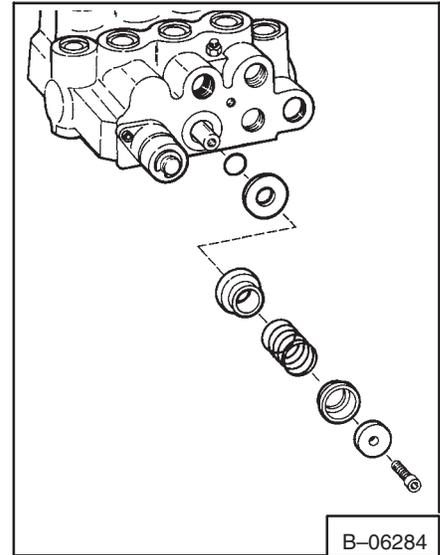

Fig. 2-37a Centering Spring Assembly
23. Remove the bolt, spring, back-up washer and O-ring (Fig. 2-37a).